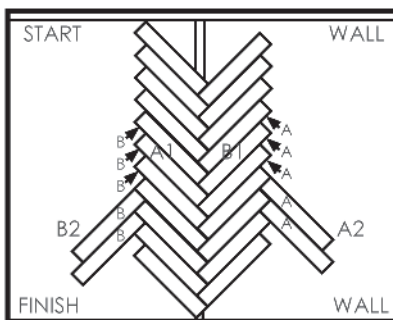

Fig 7.
- Start at the finish wall and slide the end joint of a "B" plank into the side of an "A" plank. Slide the "B" plank back into the end of the "A" plank at a slight angle until tight (Fig 7.). Note: If you find you're drifting off your center line you can easily move product across the floor back and forth.